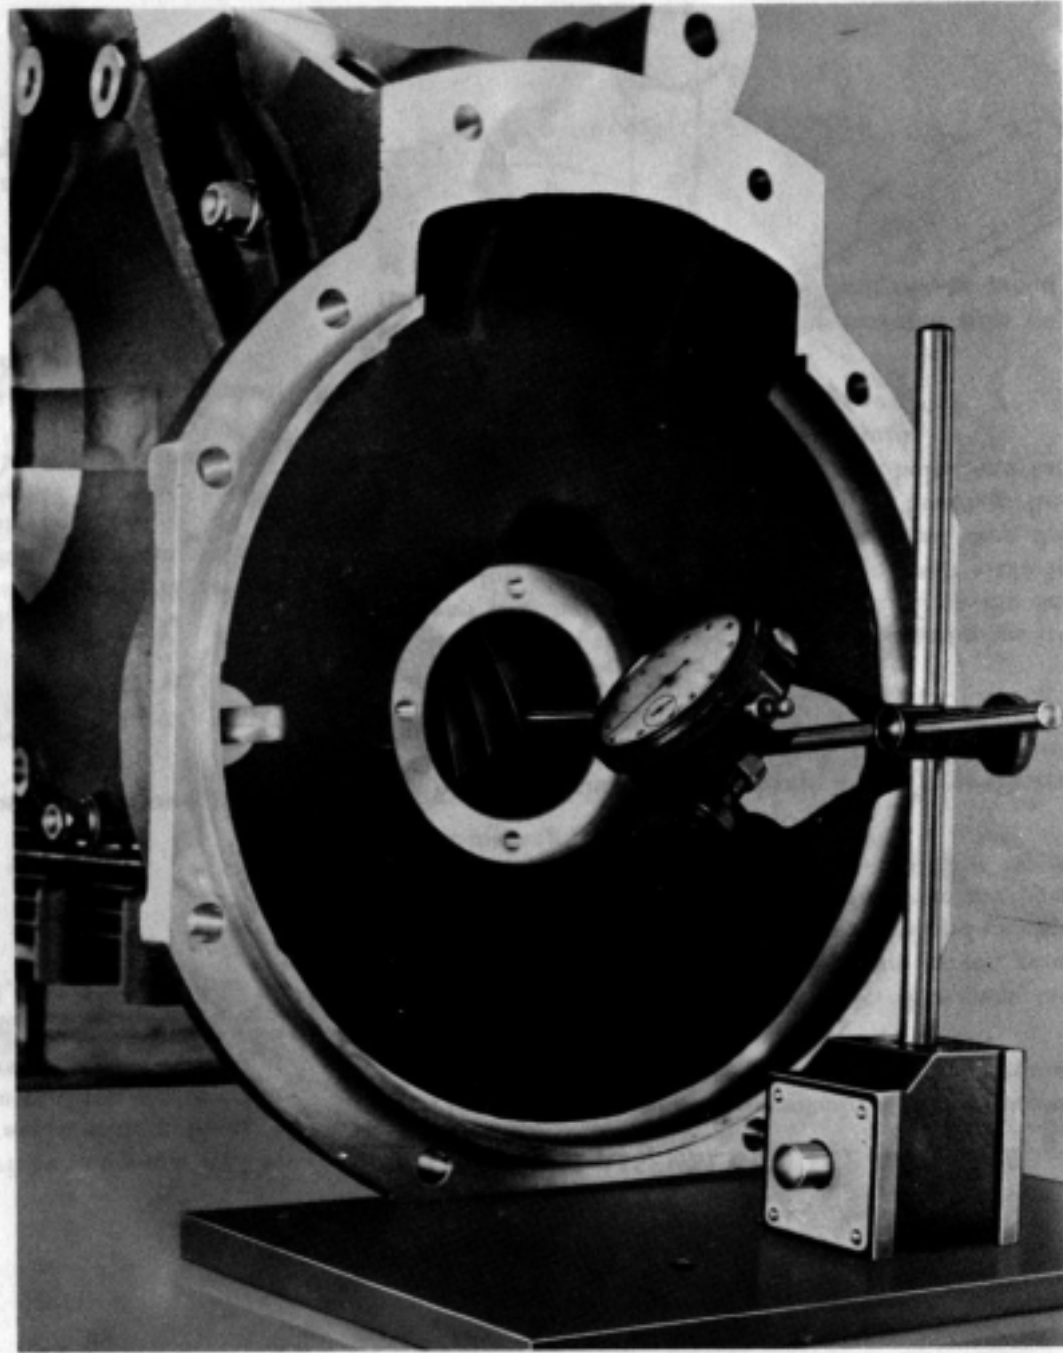

Fig. 4 How the dial recording micrometer is used to measure backlash
For this operation you will require a post-mounted dial indicator with an extended probe (Fig. 4).
2. Insert probe of, dial **indicator** through spigot housing until it touches one of the teeth of the crown wheel (Fig. 4). Note the reading on the dial indicator. Turn pinion by hand to rotate crown wheel, and take at least 12 readings. (14 readings are standard practice in our own workshops). Minimum reading should be **.004"**.